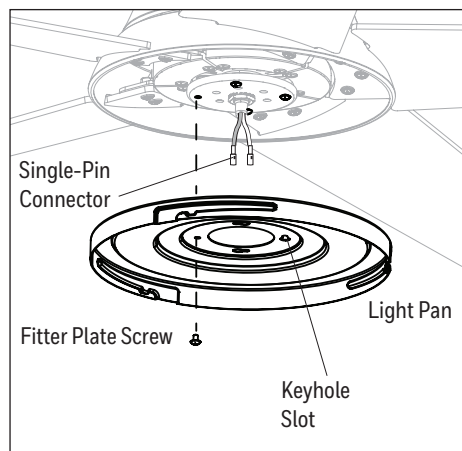

Figure 4.4
4. Remove one of the four fitter plate screws preassembled to the fitter plate and loosen the other three but do not remove. Feed the single-pin connectors through the center hole in the light pan. Align the keyhole slots in the light pan with the loosened screws in the fitter plate. Turn light pan clockwise and replace the previously removed fitter plate screw. Tighten all screws (Figure 4.4).